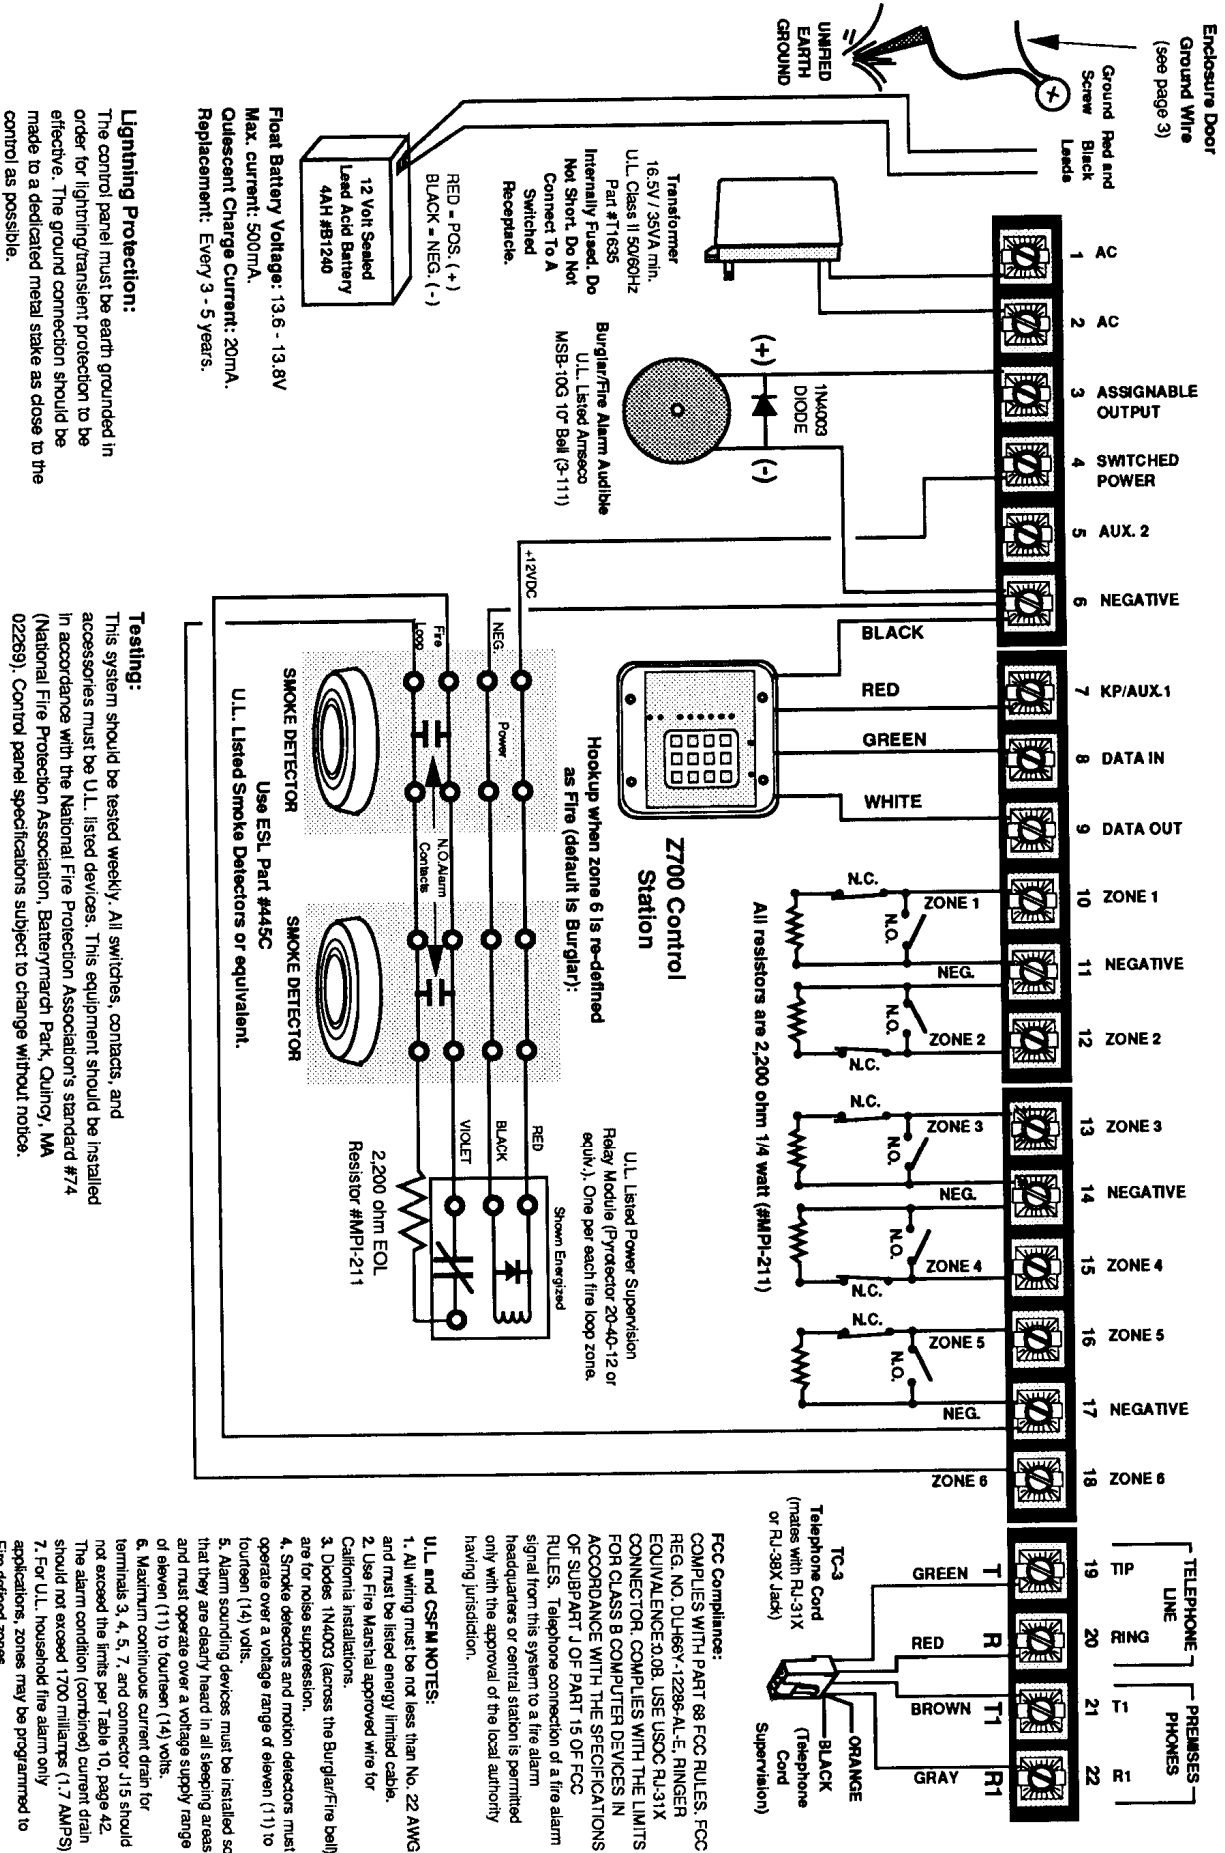

FIGURE 4 SUGGESTED U.L. HOUSEHOLD BURGLAR ALARM AND/OR (FIRE ff) ALARM HOOKUP
The control is powered by a 16.5 volt 35VA U.L. listed Class II plug-in transformer (part # T1635/supplied). Follow the wiring instructions as indicated in Table 1 and Figure 4 and 5.
2. Connect all alarm sensors to the zone wiring as per the instructions provided by the individual sensor manufacturer and Figures 4, 6 and 7.